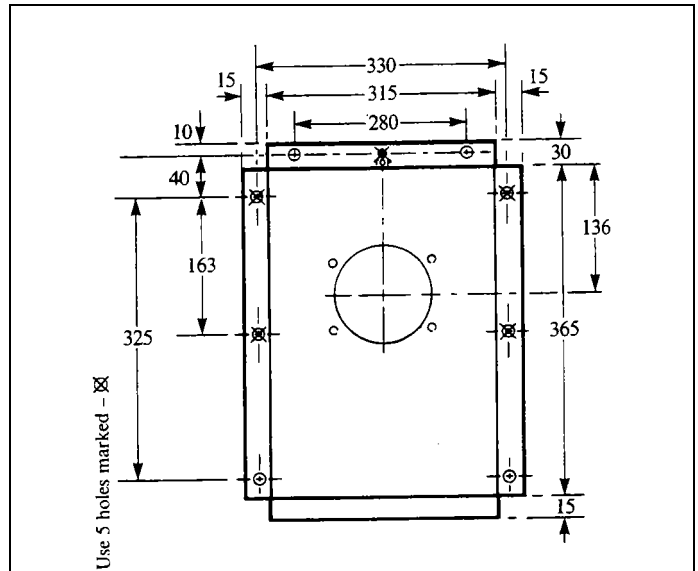

Fig. 15
Refer to Figs. 15 and 16.
2. Again using the mounting plate as a template mark the positions of the five mounting plate fixing holes, the side of the boiler and the horizontal centre line of the flue as shown in Figs. 15 and 16.